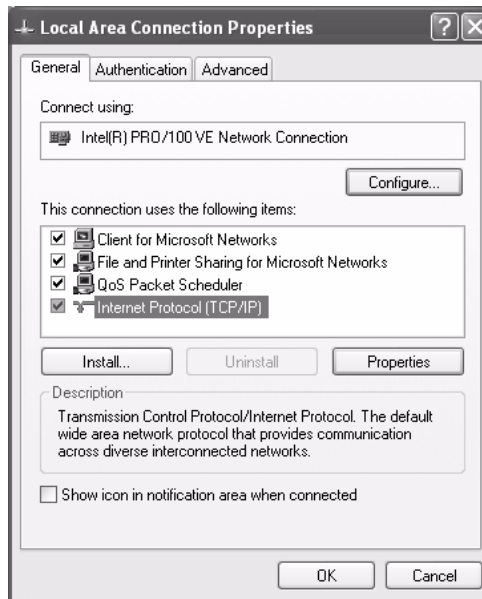

Figure 68: Local Area Connection Properties - Windows XP
4. Ensure that the Client for Microsoft Networks and Internet Protocol (TCP/IP) are installed and checked as shown in Figure 68. If NetBEUI is installed, uninstall it.